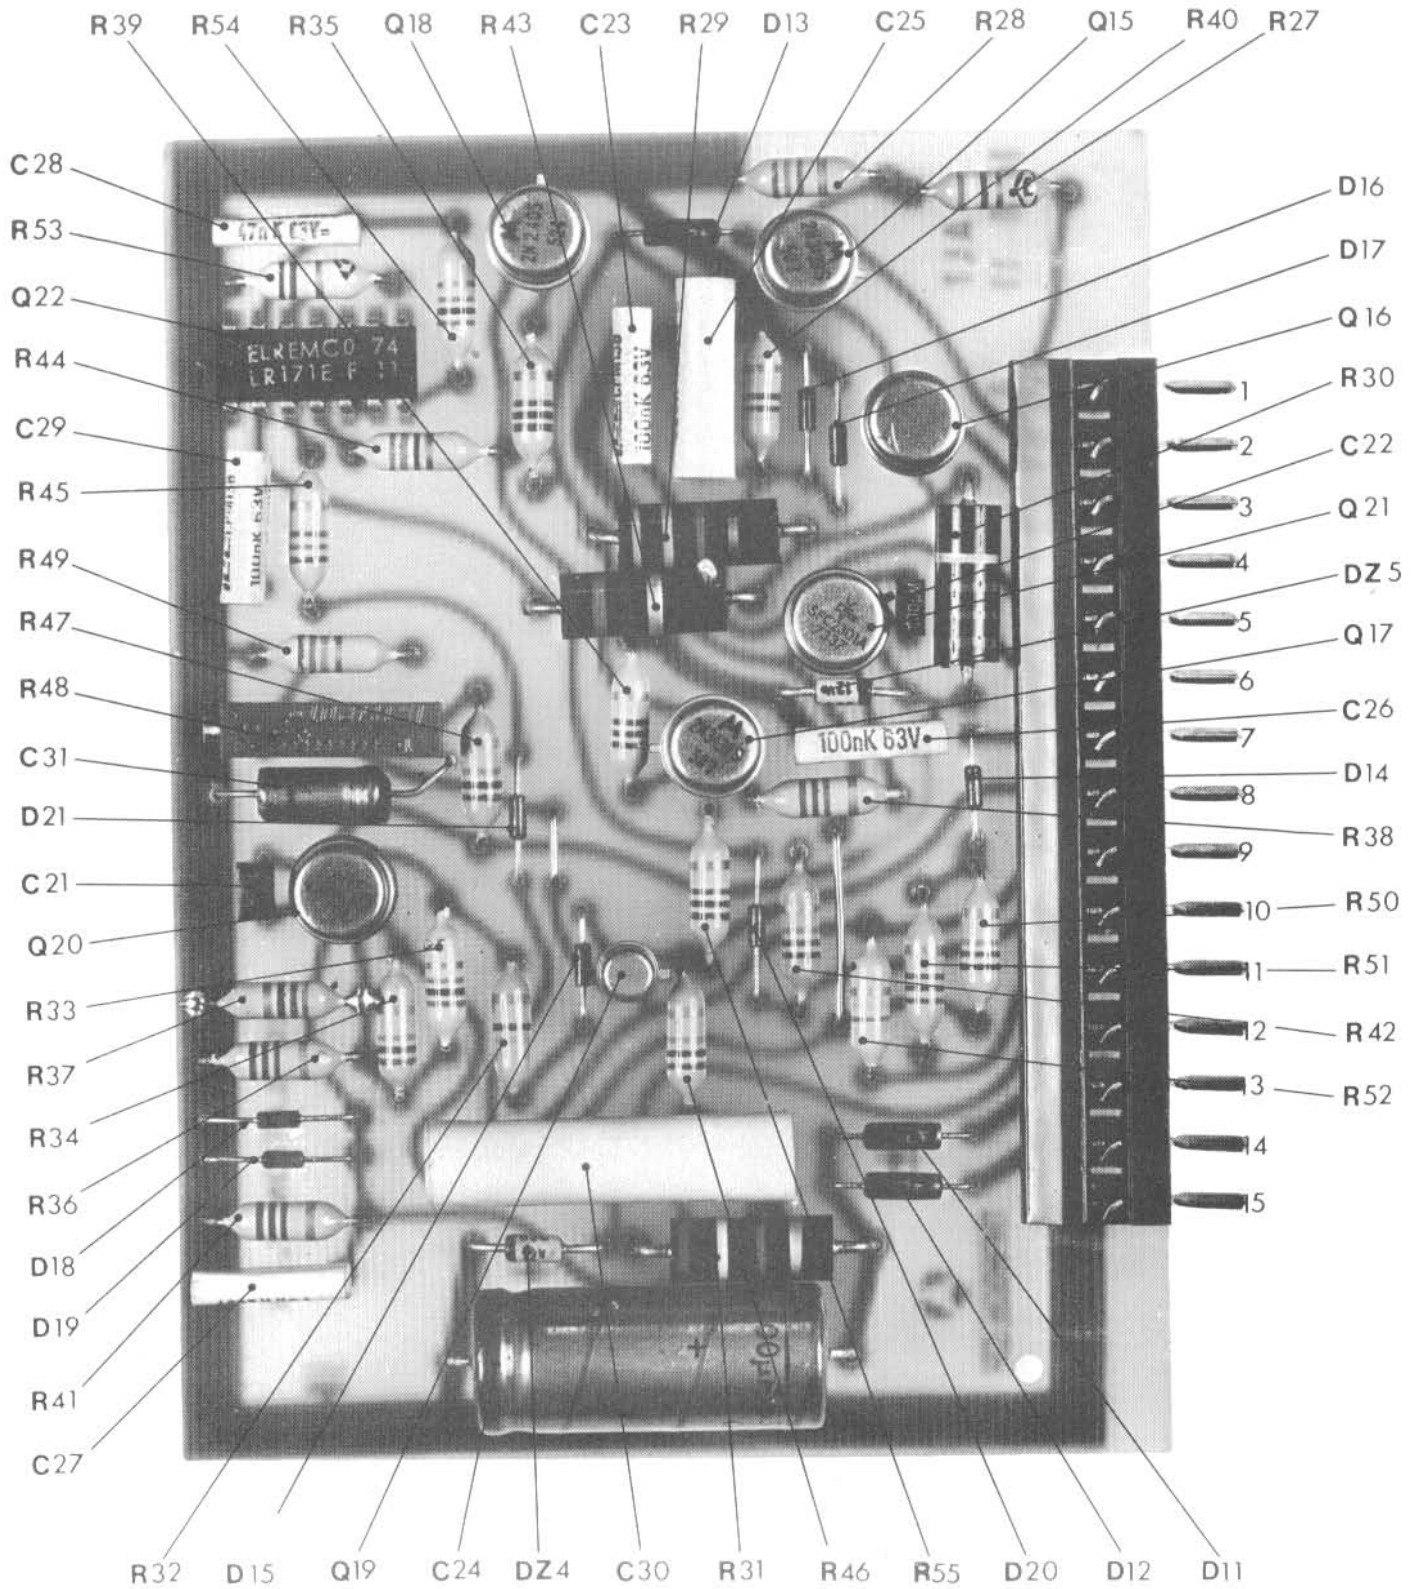

Figure 10 - Regulation/time-delay/protection printed-circuit board.
- 1) Check transistor Q18 (see Figure 10).
- 2) Check the time delay, transistor Q22 (see Figure 10).
- 4) Change IC's Q20 and Q21 (Figure 10).
- 2) If all of the transistors are o.k., check diode D13 and integrated circuit Q21 (see Figure 10).